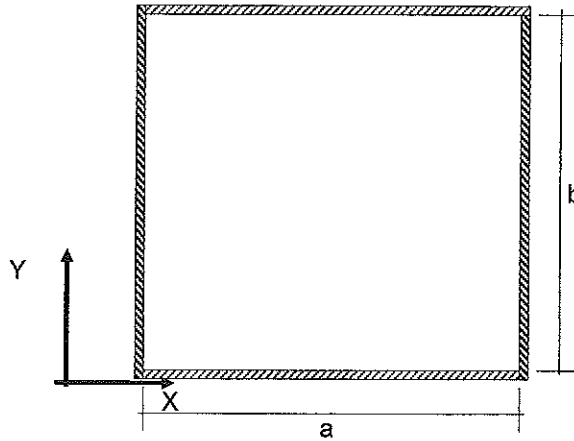

Figure Q8
- (ii) A simply supported rectangular plate (Figure Q8) is subjected to a sinusoidal load